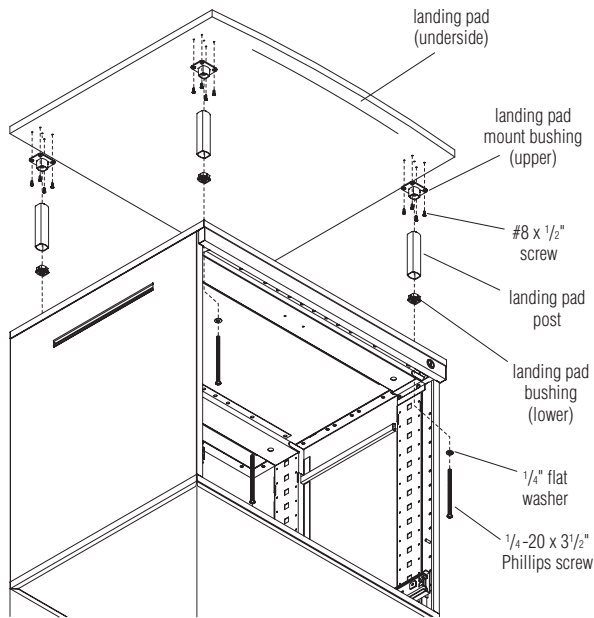

Figure 4
3. Place a 1/4" flat washer onto each 1/4-20 x 3 1/2" Phillips screw. From inside the cabinet, route each screw up through the top of the cabinet, and through the landing pad bushing and landing pad post. The landing pad posts and bushings will hold the screws in place (Figure 4).
4. Carefully place the landing pad on top of the four posts, aligning the upper landing pad mount bushings with the posts and 3/2" screws (Figure 4).
5. Tighten the screws, securing the pad and the posts to the top of the tower. Be careful to not over-tighten (Figure 4).